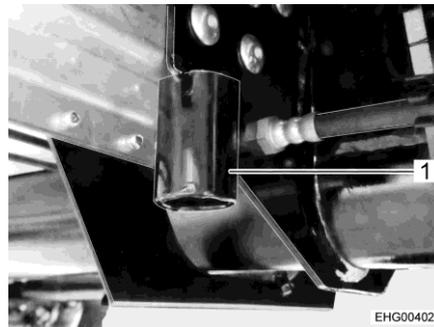

Fig. 155 Holder for vehicle jack
- ▷ Use the vehicle jack holders (Fig. 155,1) underneath the axle support (in front of the axle tube) to attach the lifting platform.